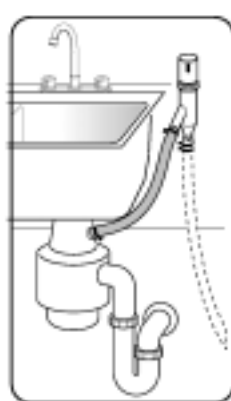

Figure 23
- 2) Directly to a disposer dishwasher drain connection, as shown in Figure 23.
If the dishwasher drain hose is connected directly to either an undersink dishwasher drain connection, as shown in Figure 22, or to a disposer dishwasher drain connection, as shown in Figure 23, form a curve in the dishwasher drain hose and secure a portion of the curve at least 20" (508mm) above the cabinet floor.